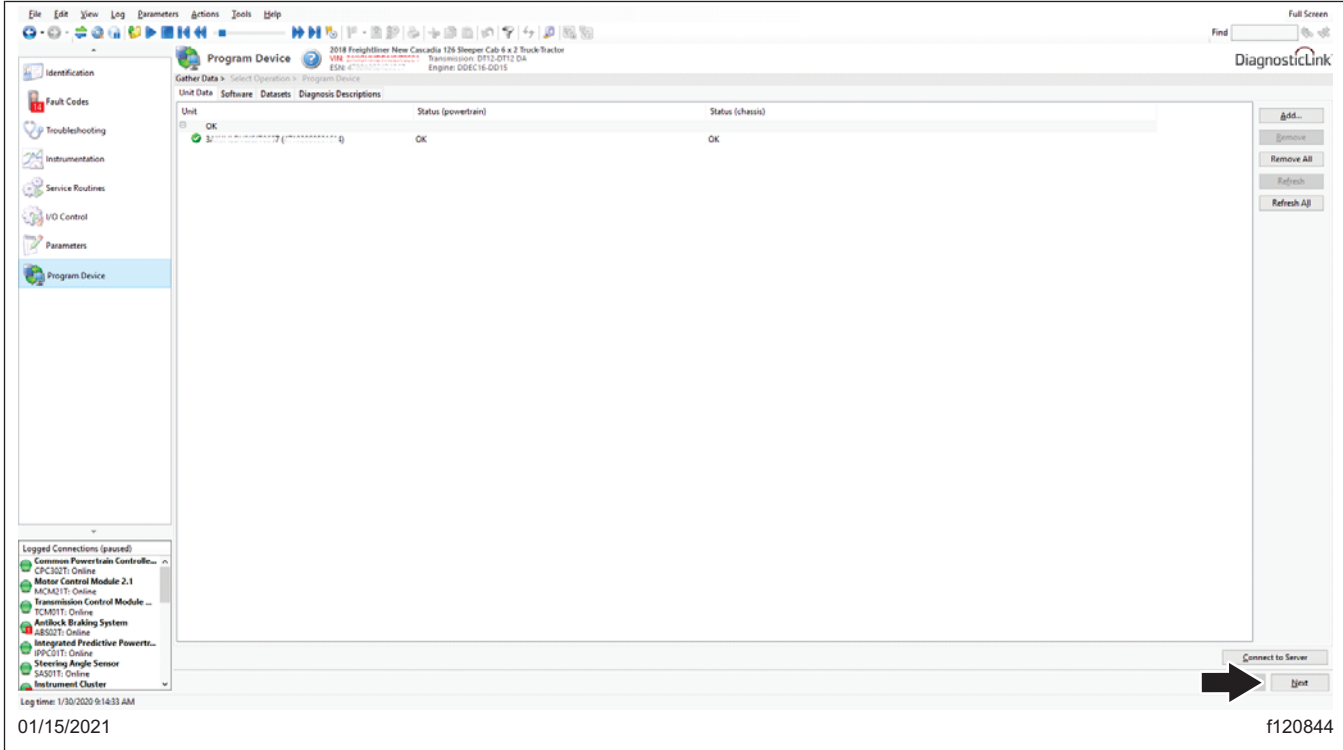

Fig. 8, Selecting Next
10. Once the data has been downloaded, select 'Next.' See Fig. 8.